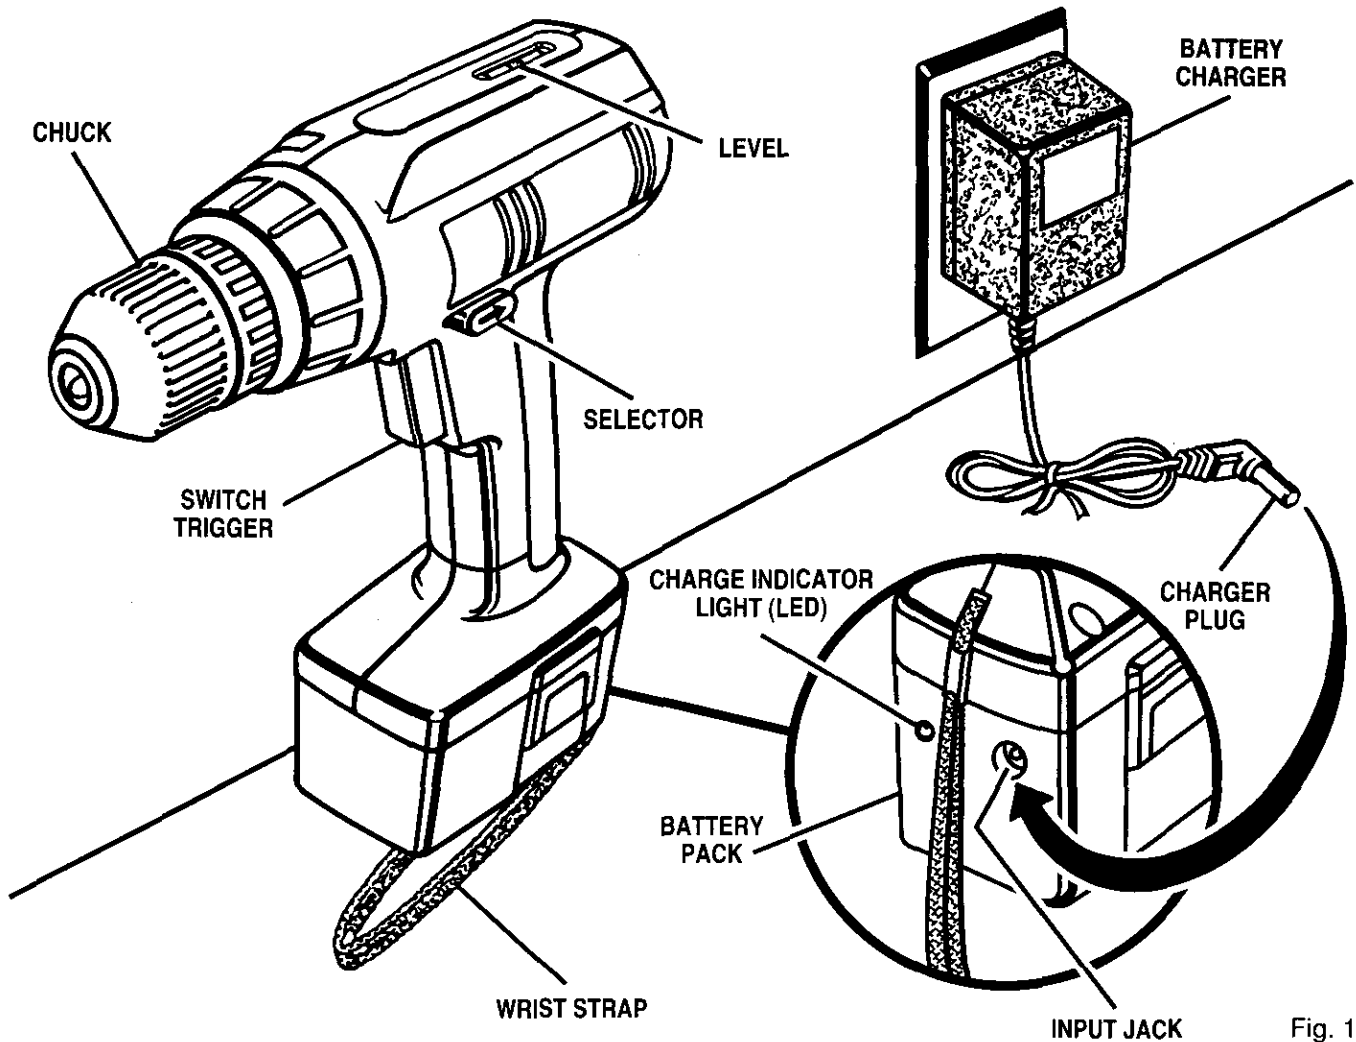

Fig. 1
See Figure 1.
- Connect charger to battery pack by inserting charger plug into input jack. As shown in Figure 1, input jack is located on the back side of battery pack.